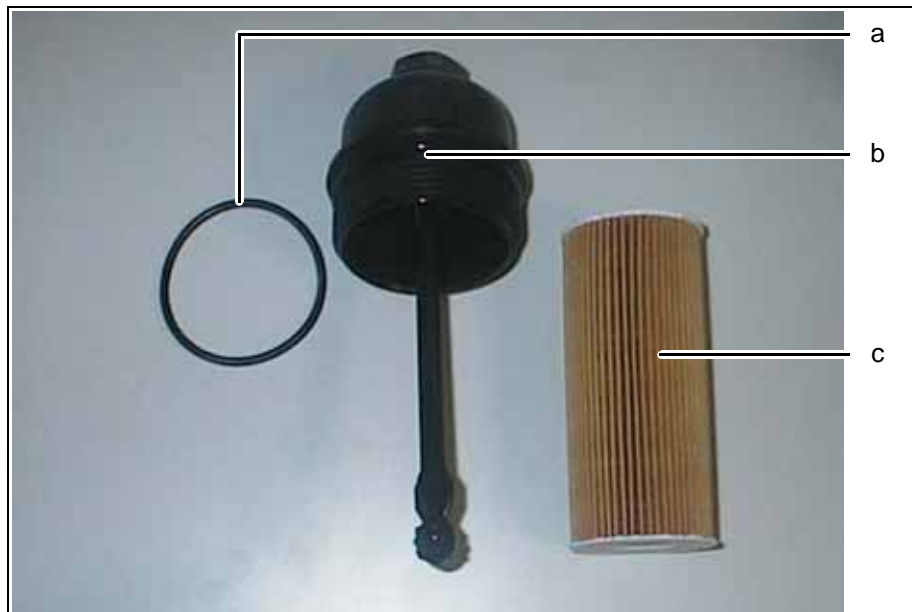

Fig. 6.2 Oil filter assy
6. Remove the screw cap (b) together with the oil filter cartridge (c). See Fig. 6.2.
7. Replace the o-ring (a) and then insert the new oil filter cartridge (c) into the screw cap (b). See Fig. 6.2.